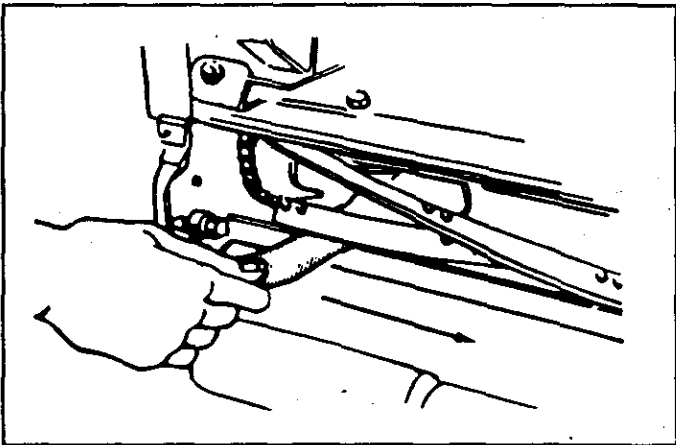

FIGURE 9
- Cut some quality .003" thick paper (writing paper or a magazine page) into strips approximately 2" wide and 6" long. Insert a strip of paper between the cutter bar and the blades as shown in figure 9. Turn the reel slowly **backwards**. The blades should pinch but not cut the paper. Check the clearance at each end and in the middle of the cutter bar. The paper should be held snugly by each blade.